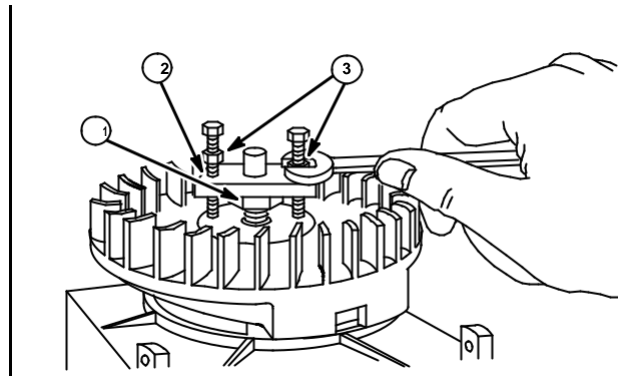

Fig. 7
2. Use flywheel nut to protect crankshaft threads and for puller to bear against, Fig. 7.
3. Thread flywheel nut (1) onto crankshaft until top of nut is flush with crankshaft threads or slightly above end of threads.